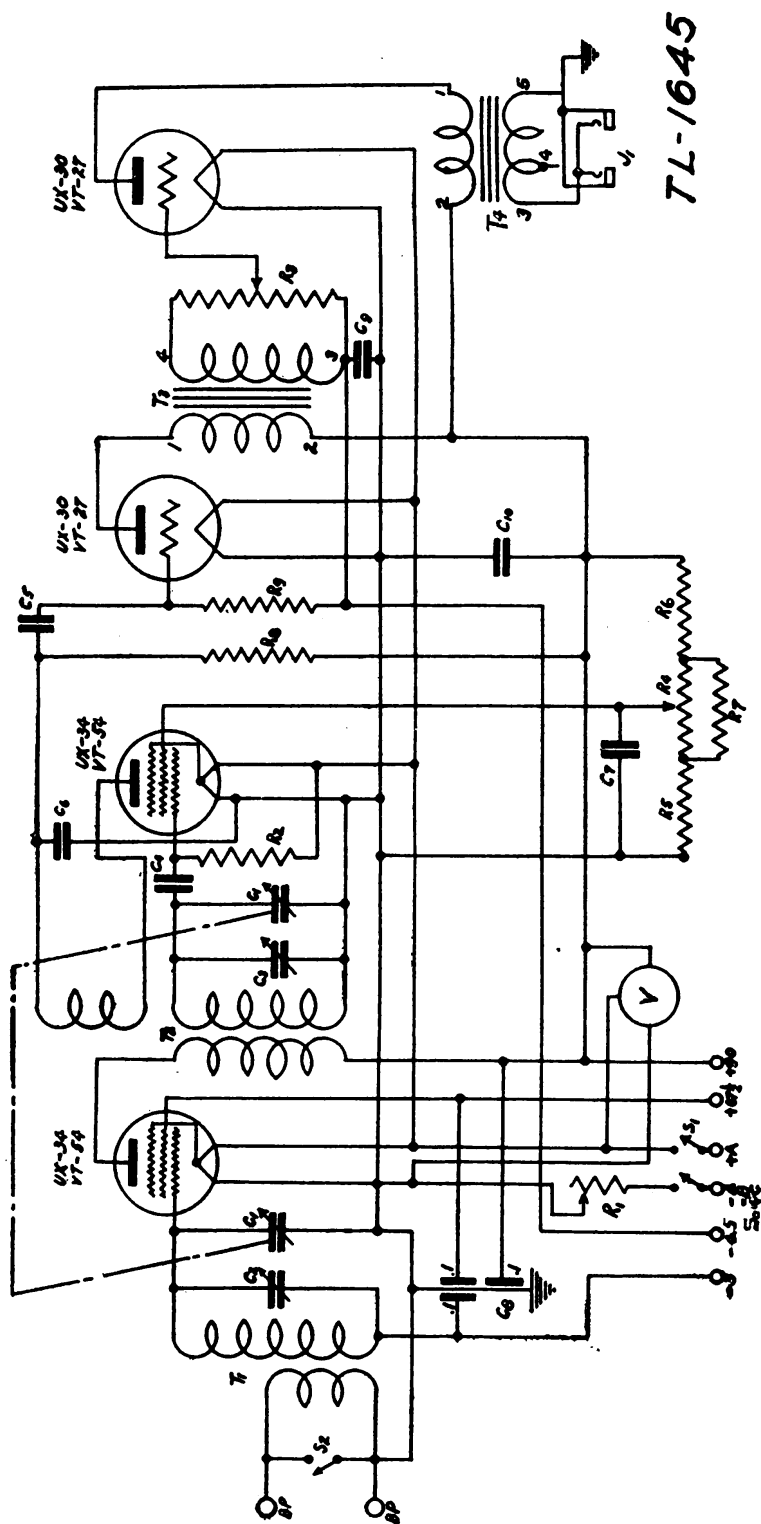

FIGURE 27.—Radio receiver BC-186, circuit diagram.
**16. Radio receiver BC-186 (figs. 27, 28, and 29).—a.** The receiver consists of one stage of radio-frequency amplification, a detector, and two stages of audio-frequency amplification. The antenna counterpoise circuit is inductively coupled to the radio-frequency amplifier by transformer  $T_1$ . The radio-frequency amplifier is coupled to the